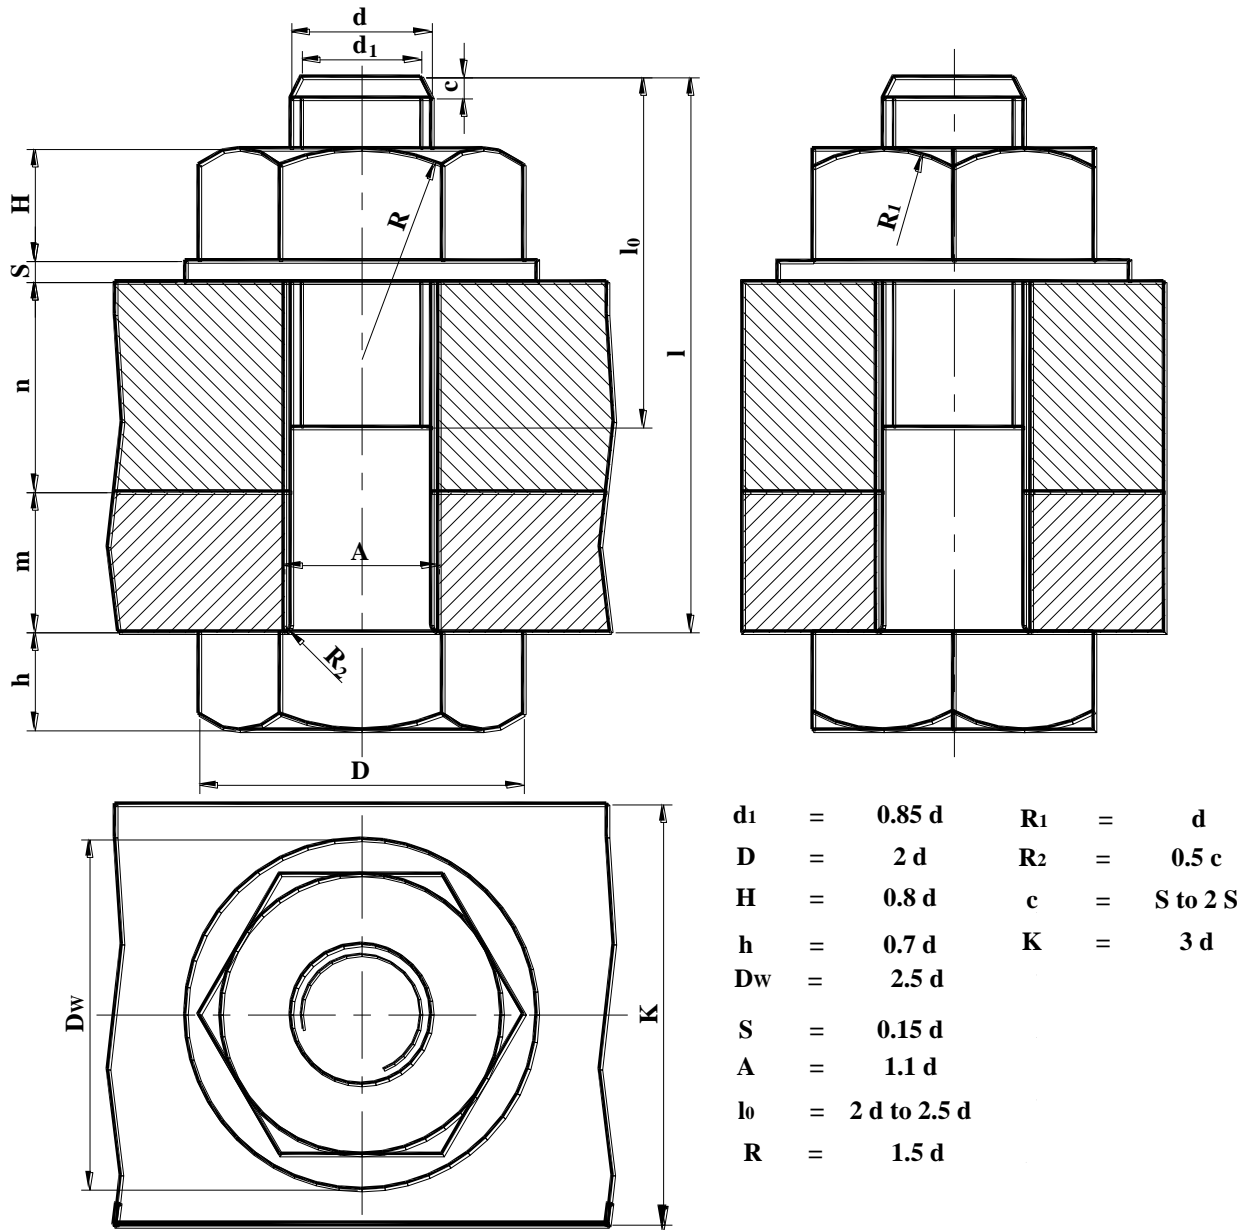

FIGURE T6.4: HEXAGONAL BOLT
4. 4. DRAW A BOLTED JOINT TO CONVENTIONAL RATIOS AS SHOWN IN FIGURE T6.4. TAKE $D = 20$ MM, $M = 20$ MM AND $N = 30$ MM.